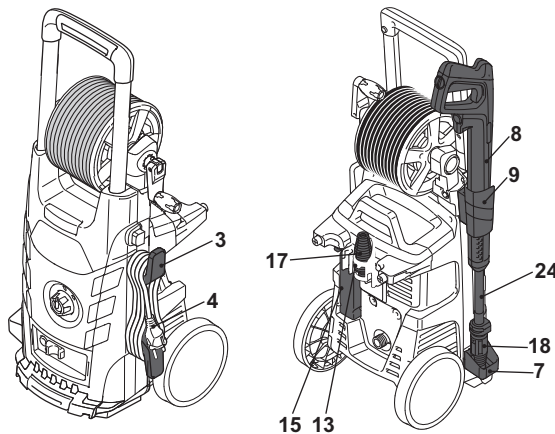

Fig. 18
Use the supply cord holder (3) to store the supply cord (4) (Fig. 18).
Use the upper spray gun holder (9) and lower spray gun holder (7) to store the spray gun (8), extension lance (24) and vario nozzle (18) (Fig. 18).
Accessories (soap tank (15), rotary nozzle (17)) can be stored at the back of the product. (Fig. 18).